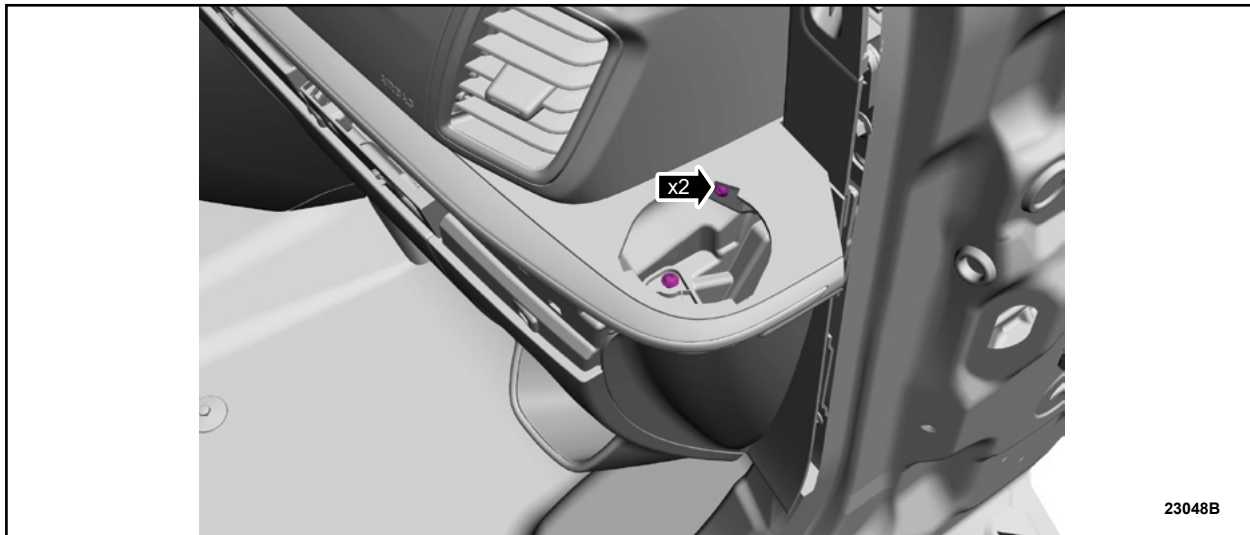

FIGURE 22
24. Remove the bolts from the right hand (RH) trim panel. See Figure 22.